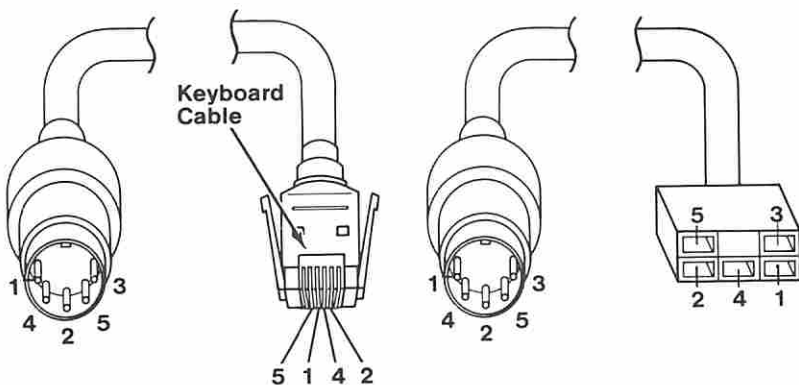

Figure 2. Continuity Check
- Refer to Figure 2, and check the keyboard cable for continuity.